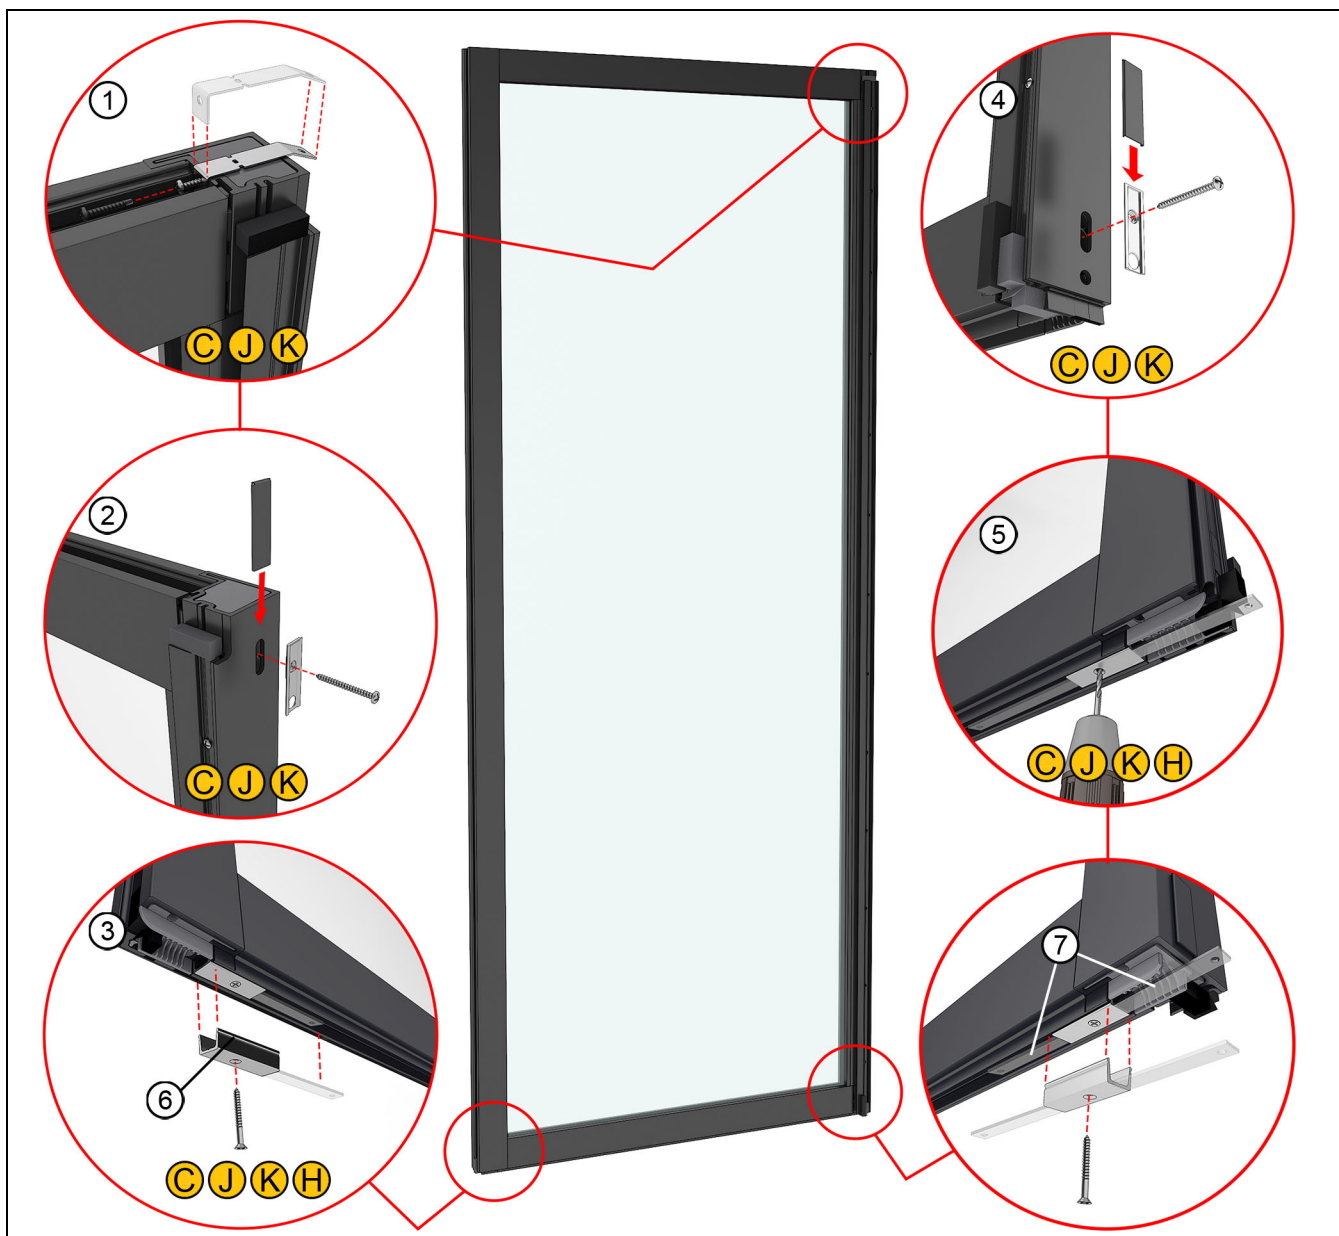

Figure 74
NOTE: Refer to Figure 74 on page 28 for all steps in this section.
1. On stationary panels (C,J, K) place the upper stationary bracket over the interlock stile(s) and attach with a #8 x 1" (25) screw through the corner key. See Figure 74 (1).
2. On stationary (C, J, K) and secondary panels, fasten the cover retainer to the top and bottom of the stiles with a #8 x 1 3/4" (44) Phillips head screw. Slide the cover over the retainer. See Figure 74 (2) and (4).
3. On stationary panels (C,J, K, H) place the lower stationary leveling block in the bottom rail channel. Align the wide part of the leveling block with the seam between corner key and the rail, then pre-drill with a 1/8" (3) drill bit. Fasten with a #8 x 1 1/2" (38) Phillips head screw. See Figure 74 (3) and (5).